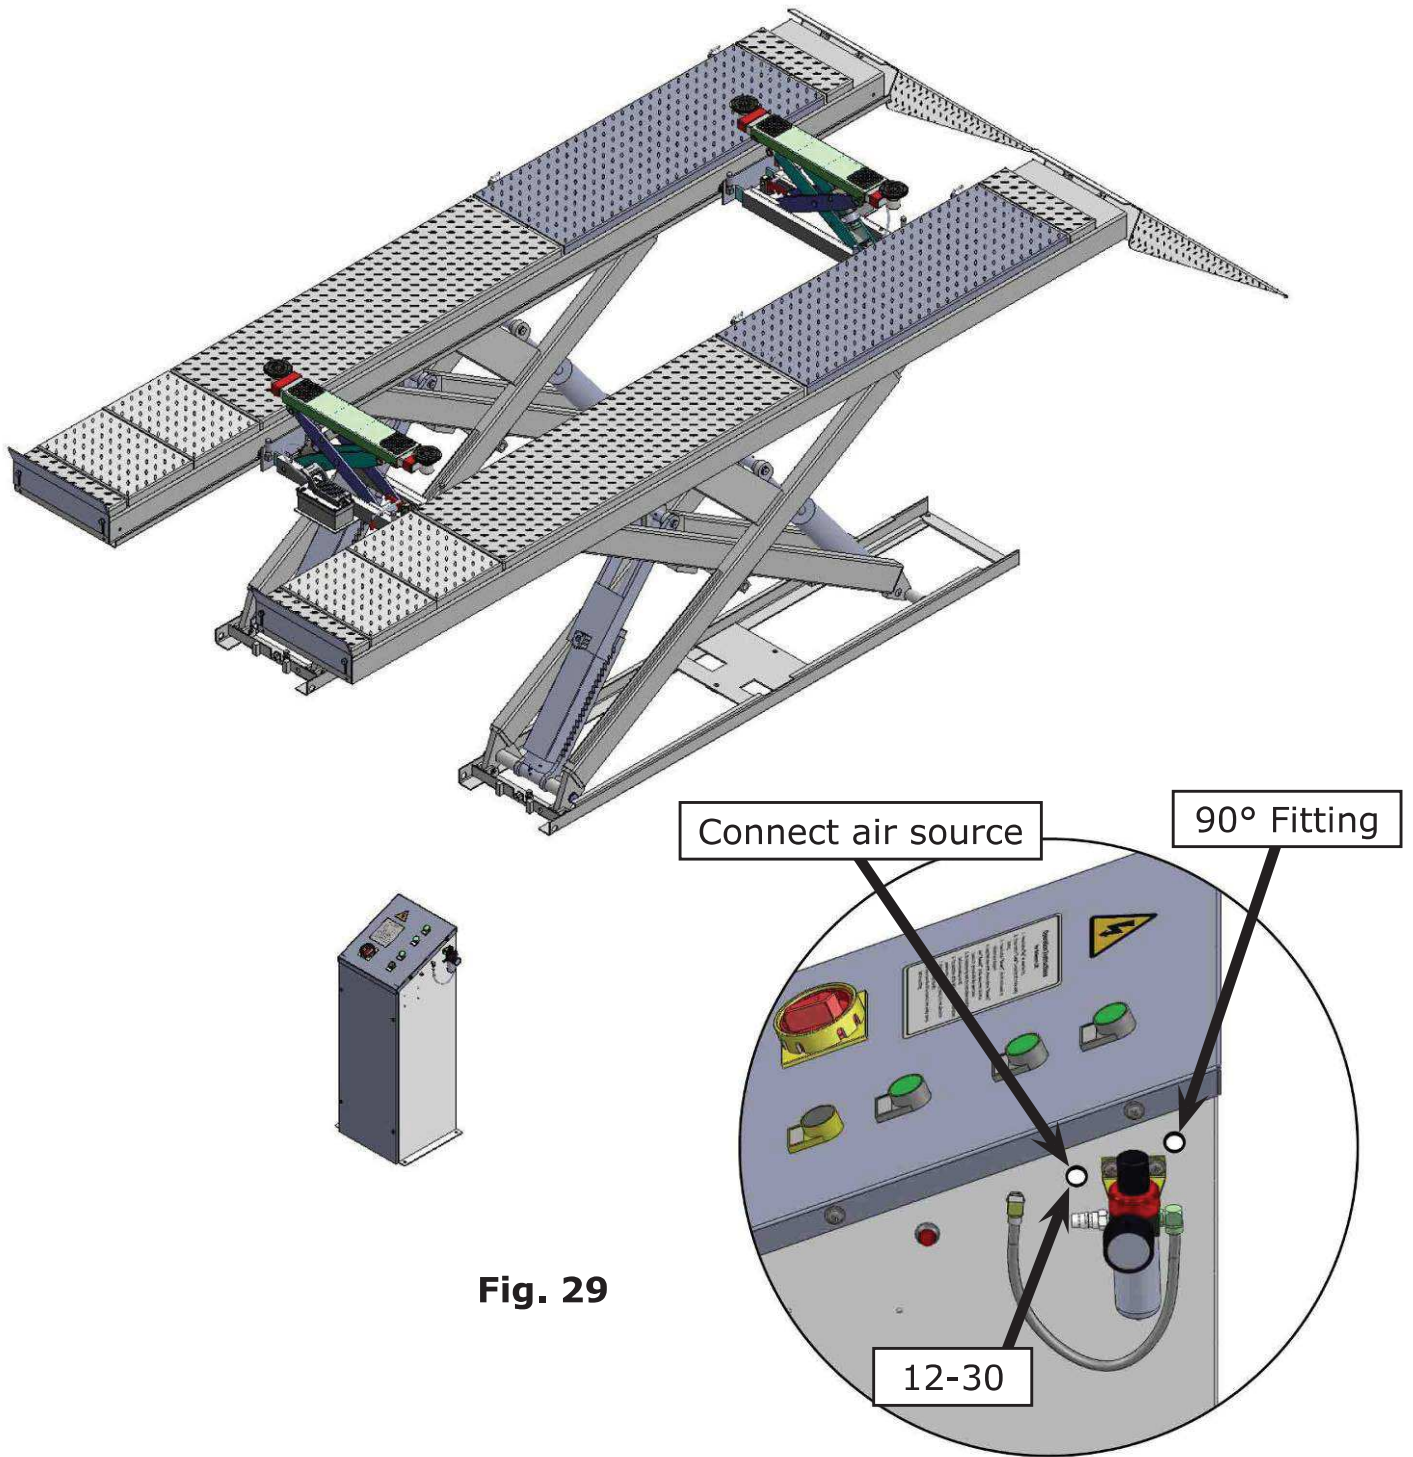

Fig. 29
H. Install air line kits for SLA-16 (See fig. 29)